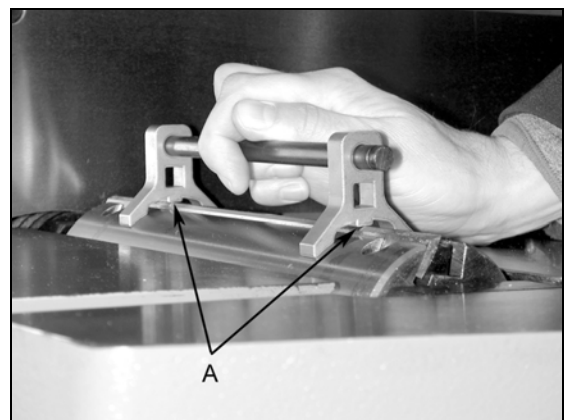

Figure 12
2. Next use the supplied knife gauge as shown to carefully push down on the knife until it is position as shown in Figure 12. Make sure the knife makes contact within the indent as shown by 'A' in Figure 12.